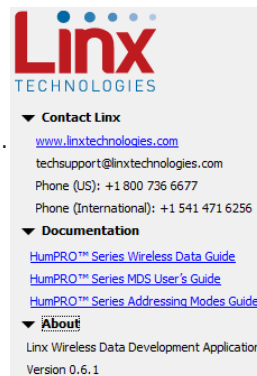

Figure 11: Additional Information
1. Clicking the Contact Linx, Documentation and About labels on the left side expands them to show additional information and links to the latest documentation. This is shown in Figure 11.